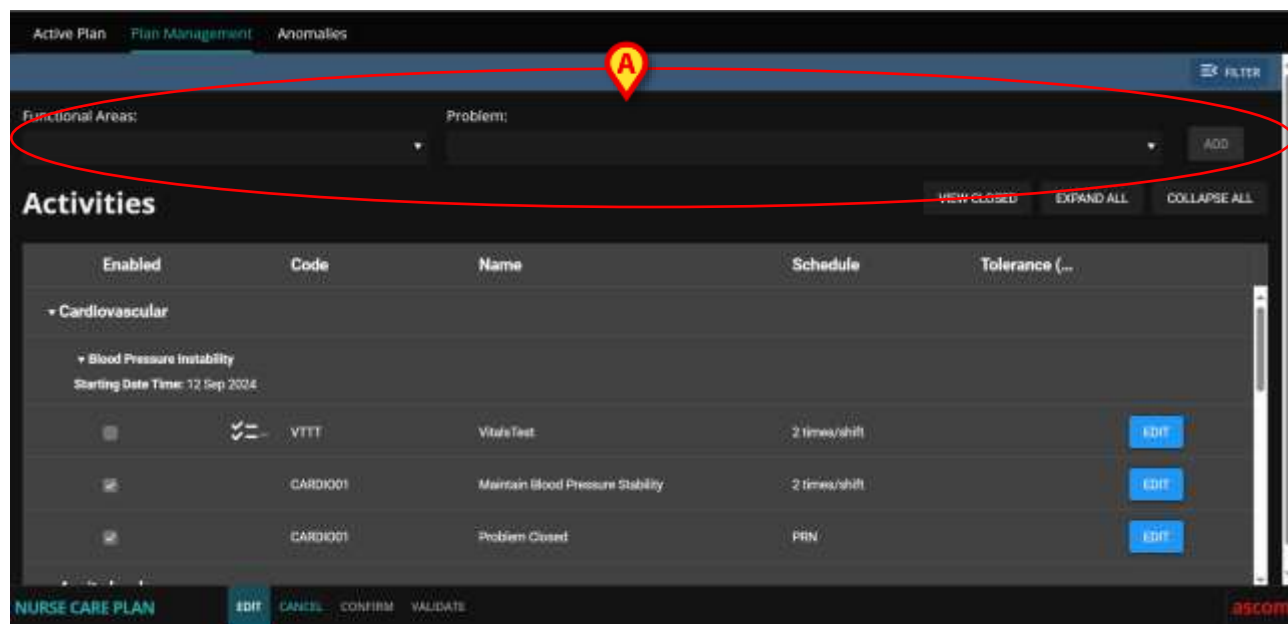

Fig 8
The screen changes in the following way (Fig 8).
- Select a functional area and a problem in the available fields (Fig 8 A, Fig 9).
- 3) Select a functional area and a problem, or search and select the problem directly (Fig 8 A, Fig 9).